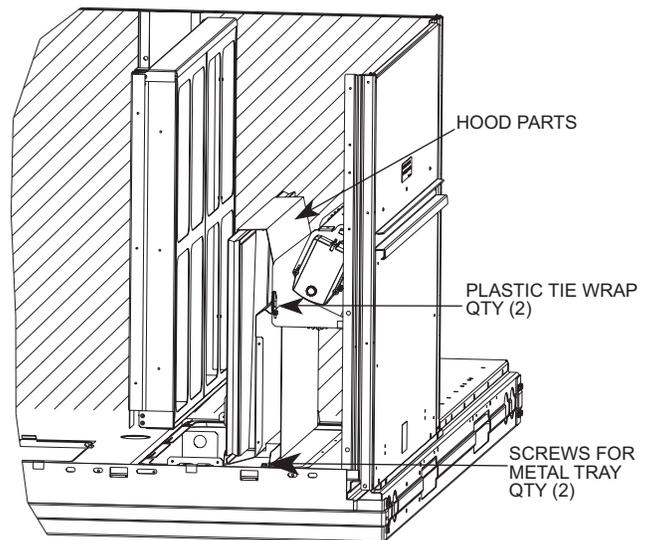

Fig. 15 — Damper Assembly
2. Locate the (2) screws holding the metal tray to the basepan and remove. Locate and cut the (2) plastic tie-wraps securing the assembly to the damper. (See Fig. 15.) Be careful not to damage any wiring or cut tie-wraps securing any wiring.